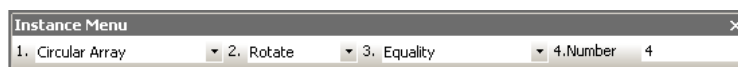

Figure 4-35 Immediate menu 1 of Round Array
- 3) Then select three lines that are mutually vertical, refer to figure 4-35.